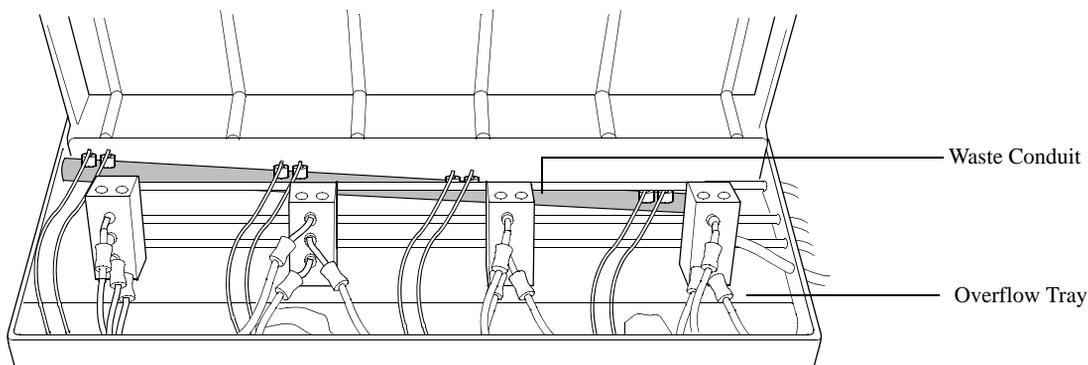

Figure 3.1
2. Check the overflow tray for liquid. If liquid is present, absorb it with disposable wipes. See **Figure 3.1 on page 30**.